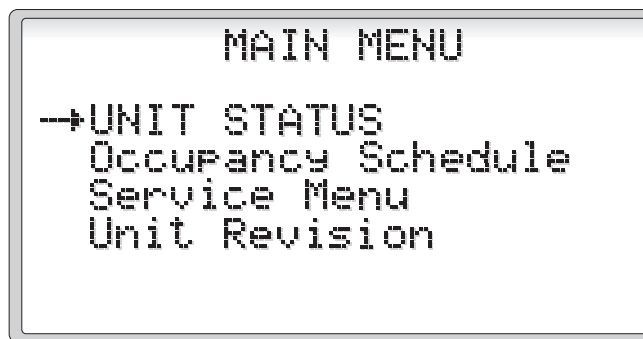

Figure 6
2.3 Main Menu (Figure 6)
Pressing the **Esc** key from the Home Screen displays the MAIN MENU (Figure 6). This menu allows the operator to select the UNIT STATUS, set the Occupancy Schedule, enter the Service Menu and view the Unit Revision.